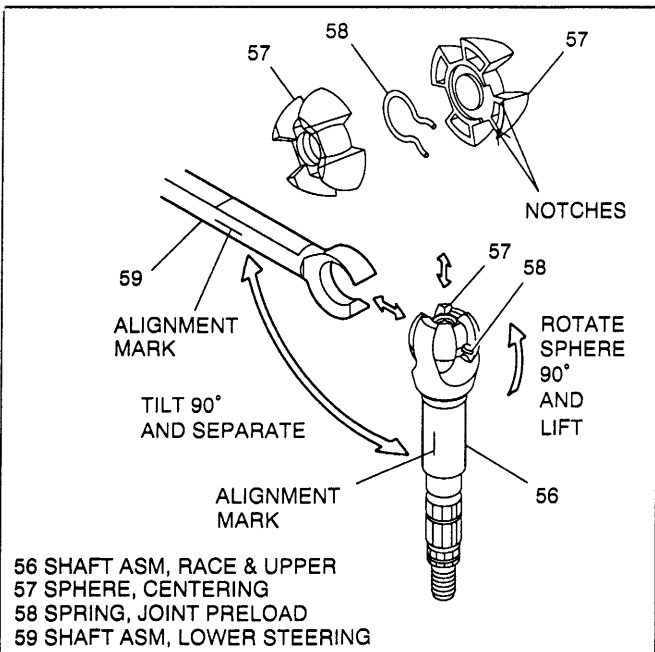

Figure 17 - Removing Steering Shaft Components
- Mark upper shaft assembly (56) and lower steering shaft assembly (59) to ensure proper assembly. Failure to assemble properly will cause steering wheel to be turned 180 degrees. (See Figures 17 and 18)